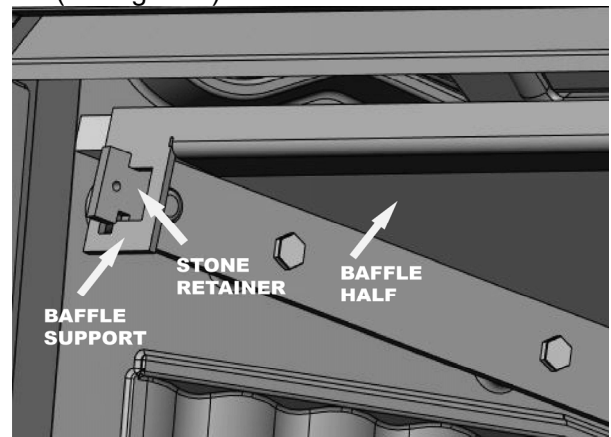

Figure 7 – Baffle Support and Baffle Half (left side)
1. Remove the baffle halves by lifting the right side of the baffle support off of the stone retainer. Slide the baffle support to the right and detach it from the left side (see figure 7).
Step Nine: Reinstall the baffle (see figure 7 & 11) by reversing step 4 subpart 1.
Note: To get the side stone under the stone retainer (see figure 7) install them far to the front of the firebox and slide them to the back.